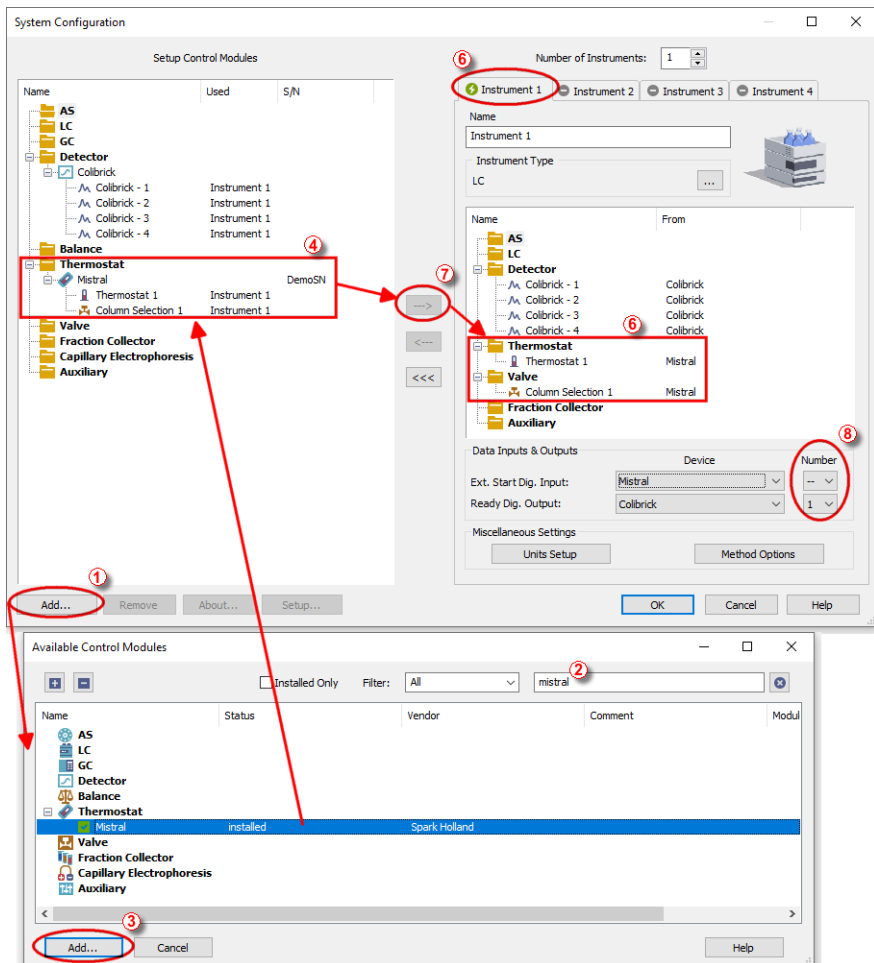

Fig 3: System Configuration
- Press the **Add** button ① (see **Fig 3** on pg 5.) to invoke the **Available Control Modules** dialog.
- You can specify the searching filter ② to simplify the finding of the driver.
- Select the **Mistral** sampler and press the *Add* ③ button.